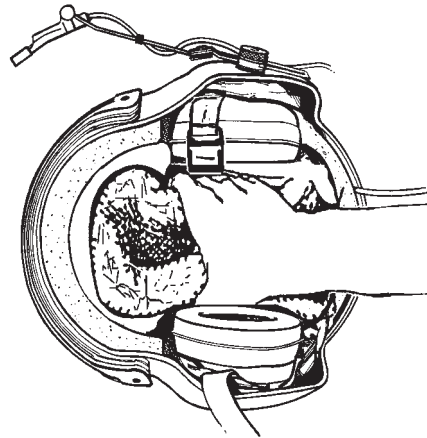

Figure 4-6. Removing TPL
2. Referring to Figure 4-6, squeeze sides of TPL and remove it from helmet.